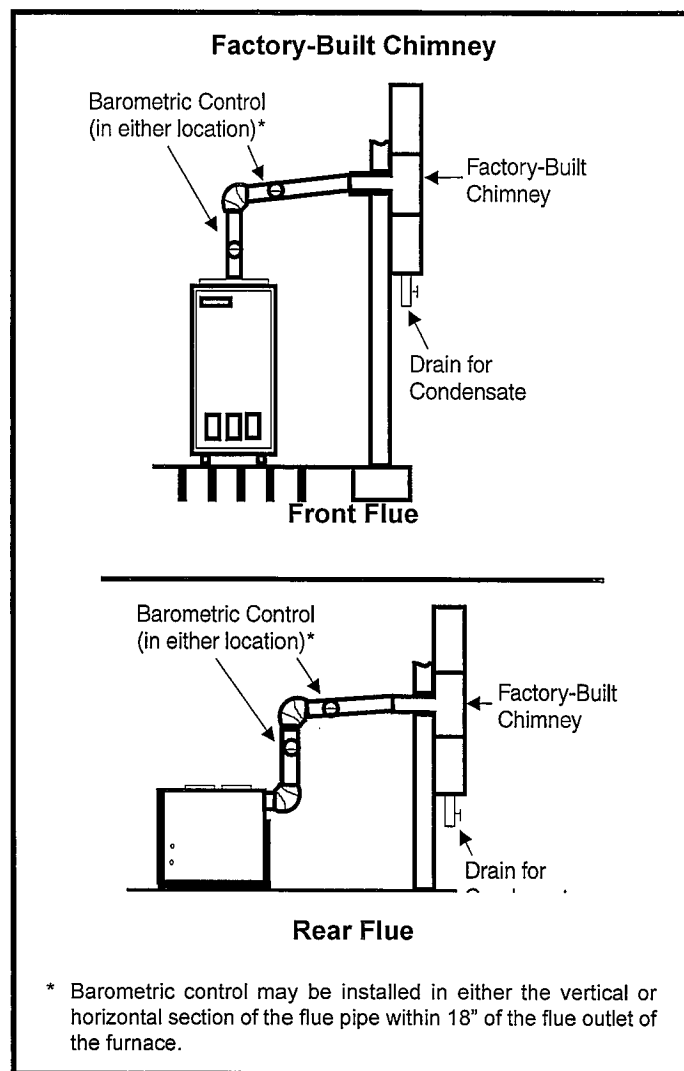
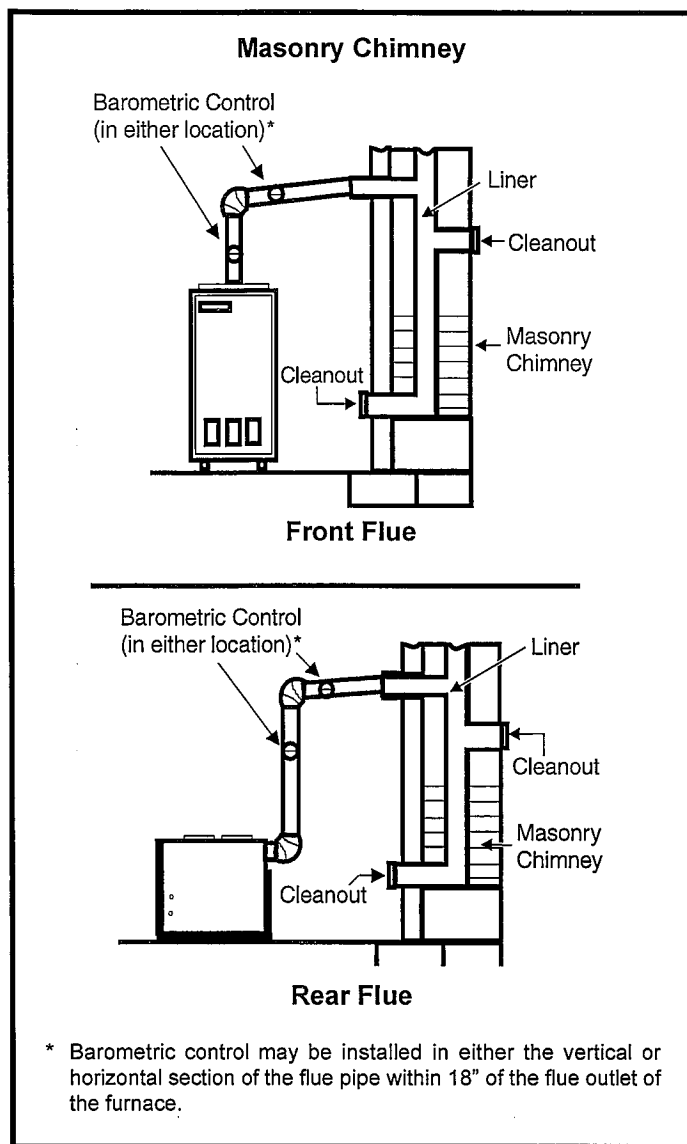

Figure 7
Figure 8
8. The flue pipe should slope upward toward the chimney on a horizontal run of at least 1/4" per foot and should be supported by something other than the furnace (see Figure 7 on this page and Figure 8 on page 8).
14. All vent pipe run through unconditioned areas or outside shall be constructed of factory-built chimney sections (see Figure 7).
15. Where condensation of flue gases is apparent, the vent shall be constructed to prevent the condensation from entering the flue transition box opening. Provisions shall be made to drain off the condensate (see Figure 7).